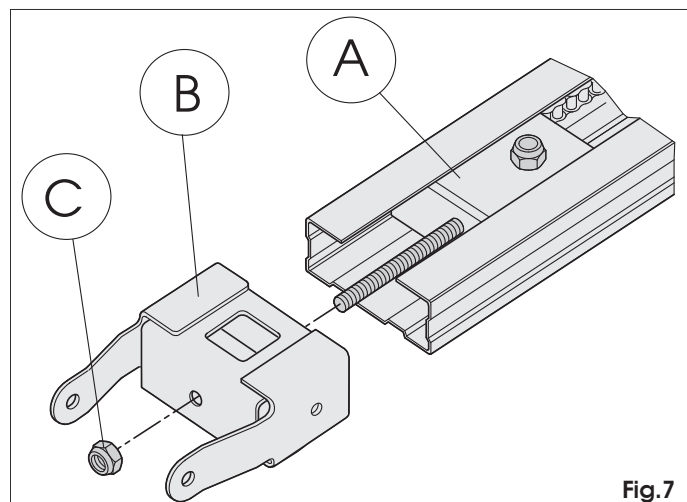

Fig. 7
- 2) Slide the transmission unit (Fig. 7 ref. A) along the whole sliding guide, until it is near the front terminal, the one opposite the drive coupling.
- 3) Assemble the front fitting (Fig. 7 ref. B) to the transmission unit (Fig. 7 ref. A).
- 4) Apply slight tension to the chain, tightening the nut (Fig. 7 ref. C.).